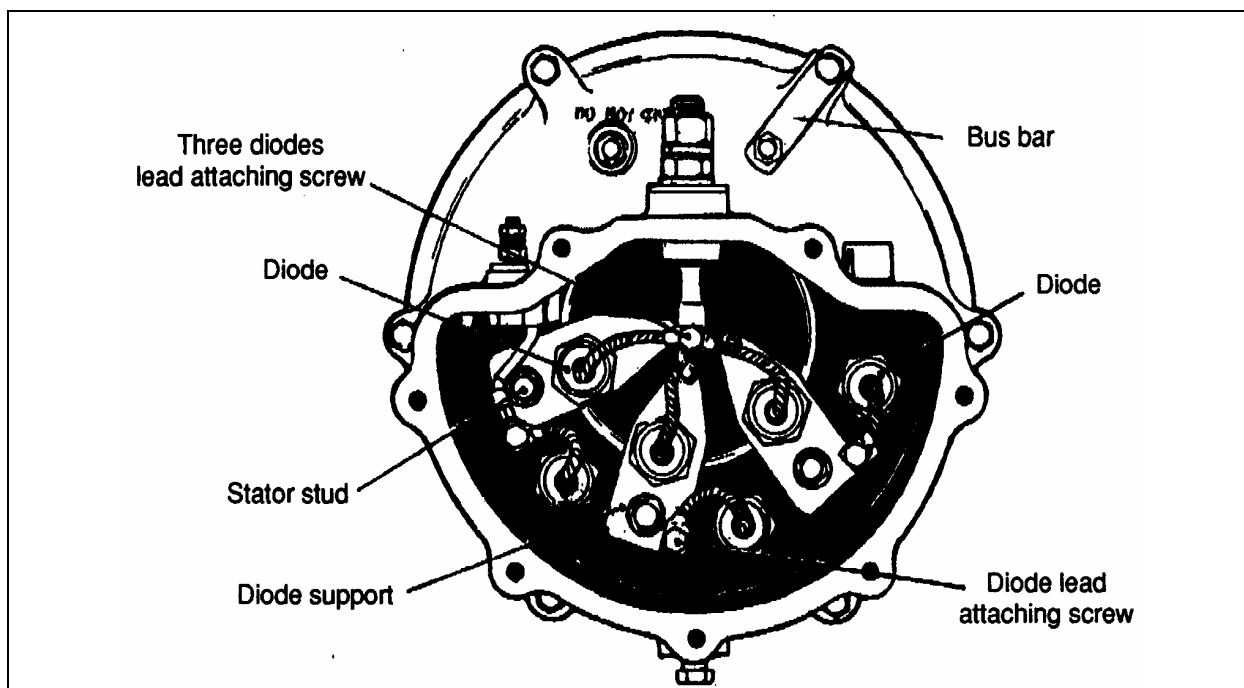

FIGURE 18: VIEW OF RECTIFIER END FRAME WITH COVER REMOVED
5. Disconnect all diode flexible leads; i.e. three from the output terminal stud and three from the diode supports. See figure 18 for more details.